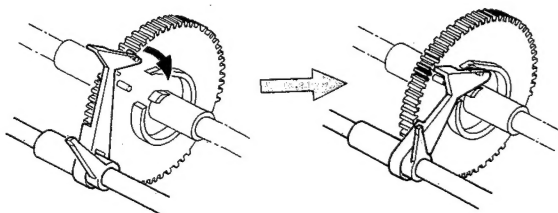

Fig. 16
- 3) Insert the hub of the lever (gear stopper) into the cam of each gear. (See figure 16)